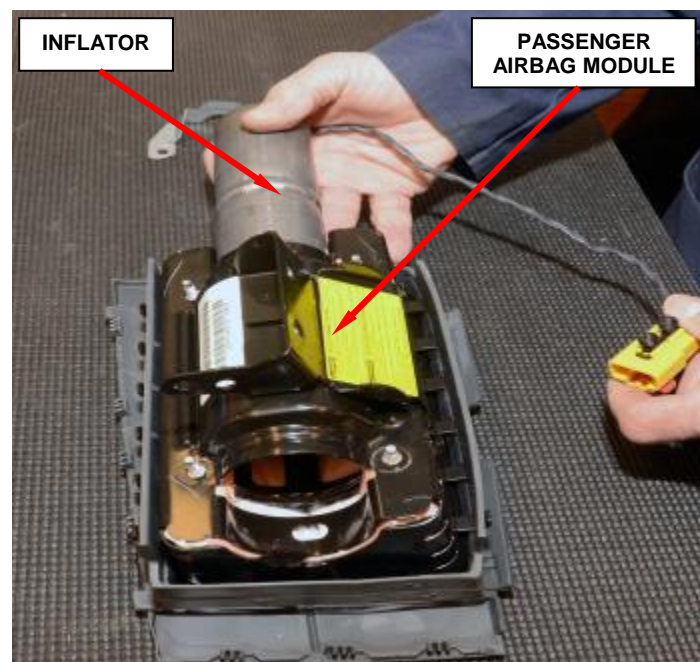

Figure 92 - Inflator Removal
f. Slide the inflator out of the passenger airbag module (Figure 92).